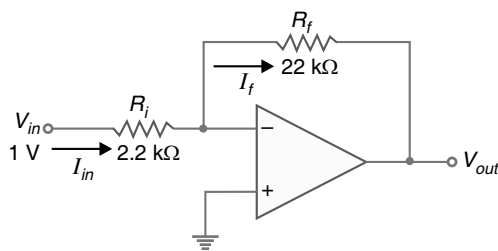

Fig. 23.105
12. Determine the approximate values of (i)  $I_{in}$  (ii)  $I_f$  (iii)  $V_{out}$  (iv) closed-loop voltage gain for the circuit in Fig. 23.105. [(i) 455  $\mu$ A (ii) 455  $\mu$ A (iii) - 10V (iv) - 10]